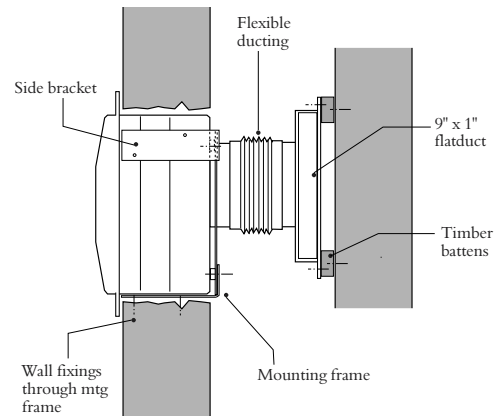

Fig. 6. Flatduct installation
- c) Offer up the casing to the mounting frame and join the other end of the flexible ducting to the outlet spigot using tape (not supplied). Fig. 6. Feed the electrical supply cable through the entry hole and fix the case to the mounting frame using the three screws supplied.